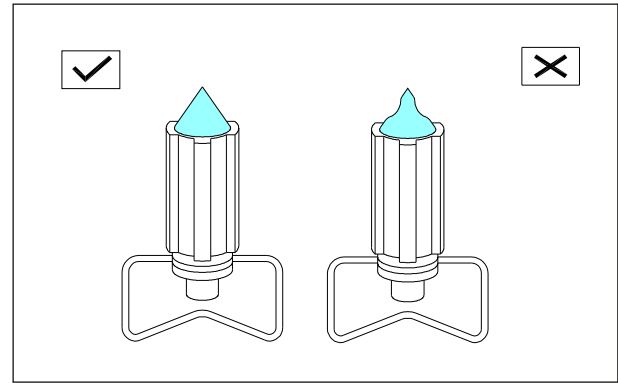

Fig. 4.31
- Remove the carburetor, float chamber, float, clean the float chamber and float parts with petrol. If the needle is worn out as shown in the (Fig. 4.31) replace it together with a valve seat. Clean the fuel passage of the mixing chamber with compressed air.